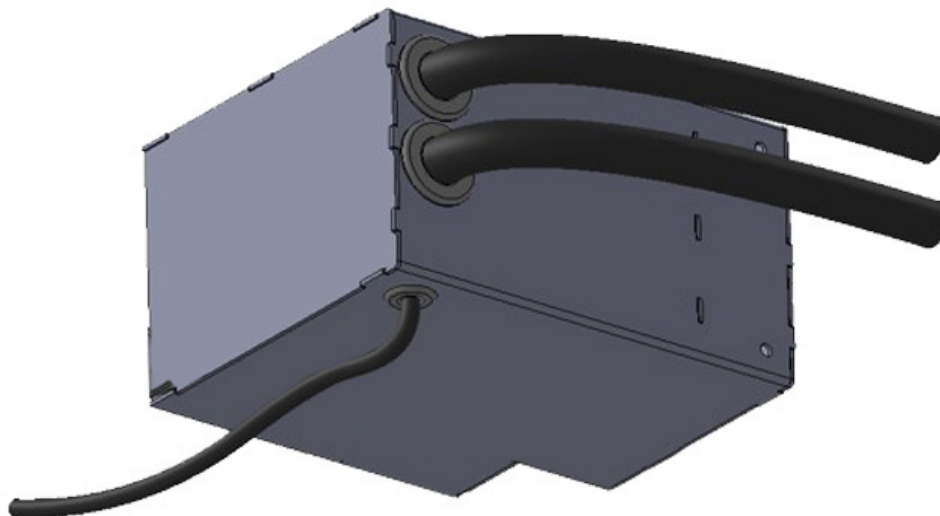

FIGURE 8
22. From the outside of the heater box, push 12" of the 38"- $\frac{5}{8}$ " radiator hose through the bottom hole and 12" of the remaining (approximately 13') radiator hose through the top hole. **FIGURE 8**